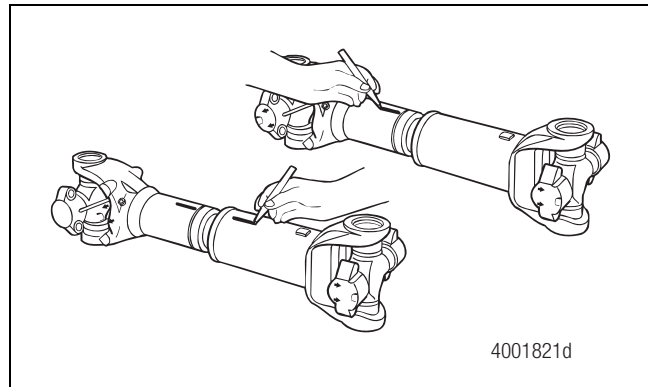

Figure 4.13
3. Mark the slip yoke and slip shaft sections to ensure that you reassemble them into their original positions. Figure 4.13.